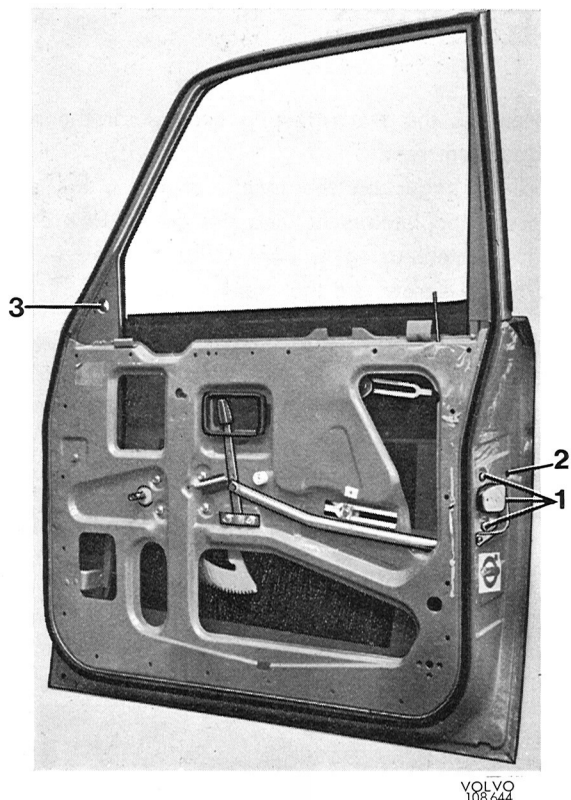

Fig. 8-13. Front door
Remove the door stop in accordance with the instructions under "Removing and installing door stops". Remove the bolts between hinges and door. The bolts are accessible when the door is opened. The door can then be removed (Fig. 8-13). In order to remove the hinges, the panel in front of the door has to be removed. When this has been done, the three bolts are removed and now the hinges can be removed.
2. Remove the lock cylinder by its attaching screw (2, Fig. 8-13) which is fitted in the rear edge of the door.
The retaining screws (1, Fig. 8-13) are located on the rear edge of the door.